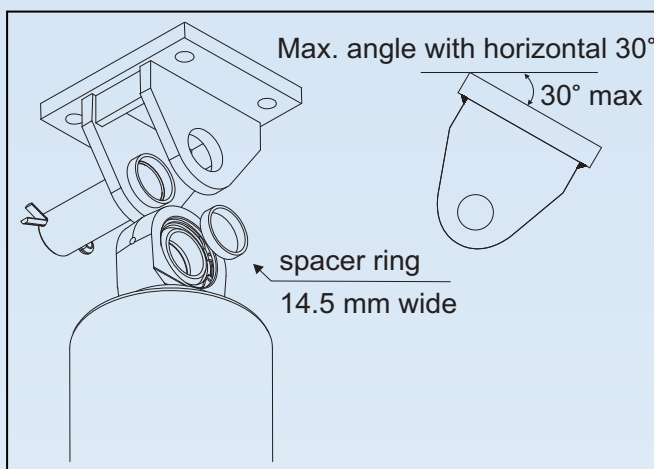

FIGURE 2
- The preferred spacer width is 14,5 mm; the minimum spacer width is 12 mm (fig.2)